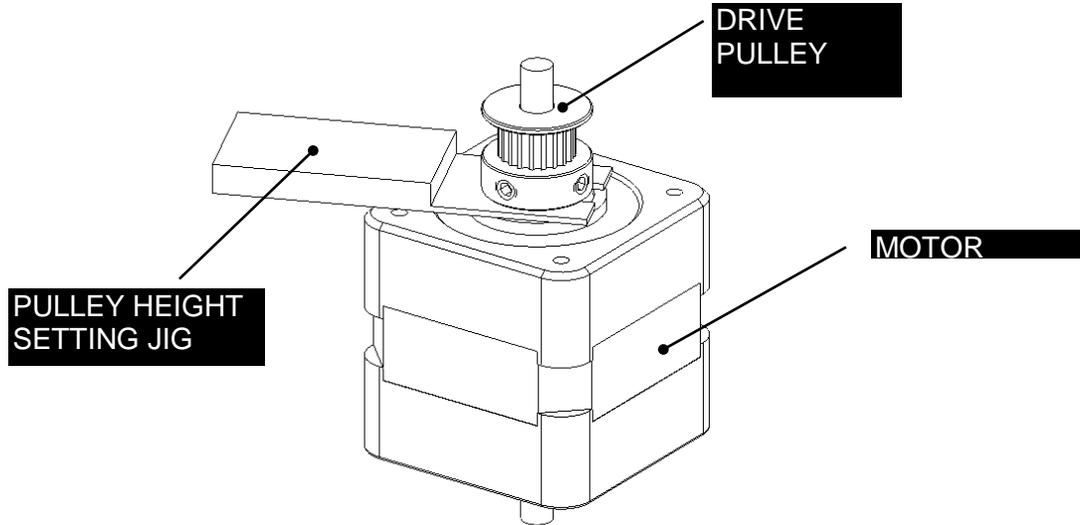

Figure 7-25: Drive Pulley
4. Remove the Drive Pulley by unscrewing the two set screws (Figure 7-25). The jig (DSXFIX004) shown in the figure is not required for removal, but is required for installation of a new unit.